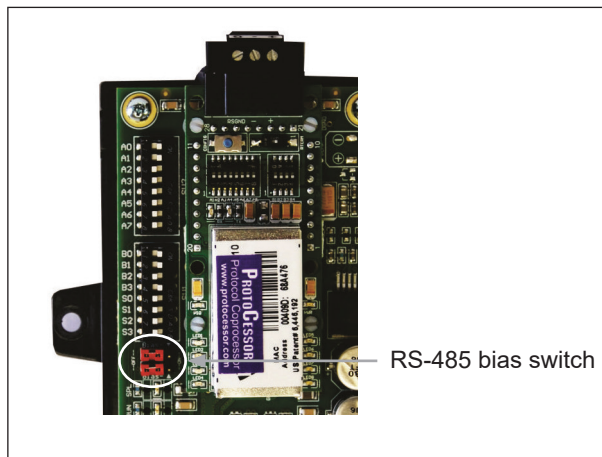

Figure 12: Modbus RS-485 biasing switch on the ProtoNode N34
- The biasing MUST always be left in the OFF position. The OFF position is when the two (2) RED biasing jumpers straddle the four (4) pins closest to the outside of the board of the ProtoNode. See Figure 12.